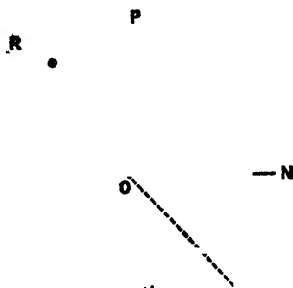

FIG. 2.
**REFLECTION FROM A PLANE SURFACE.**—If a ray of light fall perpendicularly on a mirror, it is reflected back in the same line towards the point whence it came. When a ray of light,  $IO$ , falls obliquely on a plane mirror,  $MN$ , the incident ray is reflected in the direction  $OR$ , so that the angle  $POR$ , formed with the perpendicular  $PO$  at the point of incidence, is equal to the angle,  $IOP$ , made by the incident ray with the same line.  $POR$  is the angle of reflection,  $IOP$  the angle of incidence. The two laws of reflection are the following: First, the incident and reflected rays are in the same plane; secondly, the angle of reflection is equal to the angle of incidence. A candle placed in front of the mirror, as at  $I$ , would be seen by an eye placed at  $R$  as if at  $B$ , at a perpendicular distance behind the mirror equal to the perpendicular distance of the candle in front of it. The image is always seen in the direction the ray is travelling when it enters the eye. (Fig. 2.)